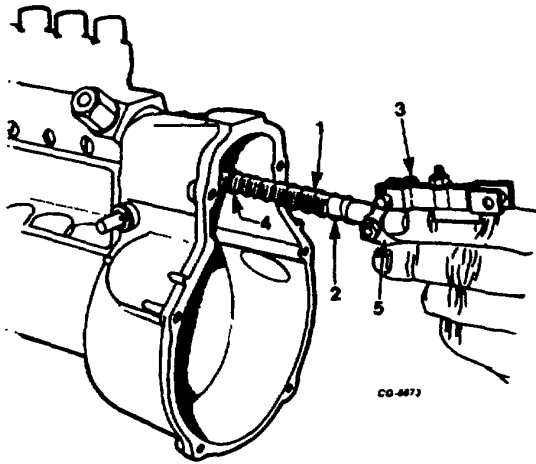

Figure 30. Removing Control Rack
18. Remove control rack from pump housing (Figure 30).